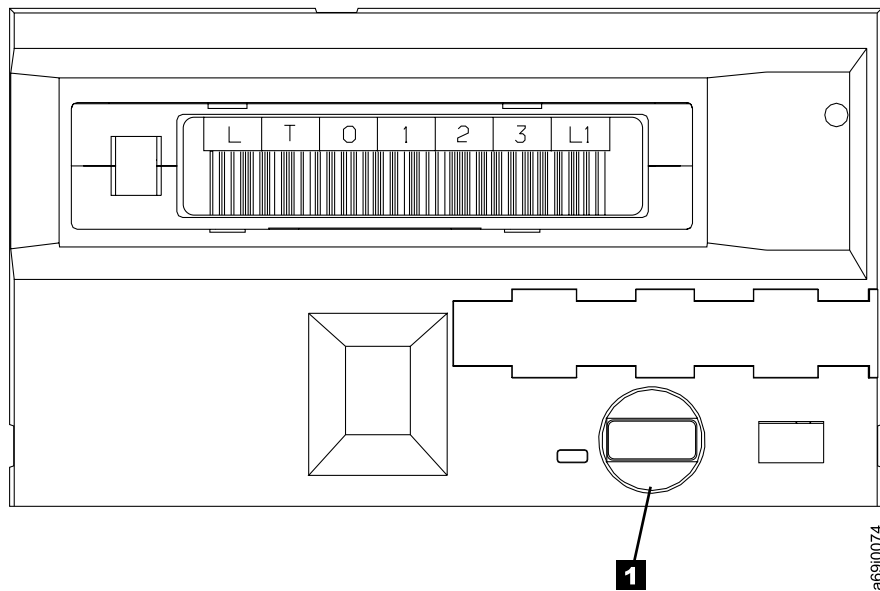

Figure 31. Removing a cartridge from an Ultrium Tape Drive
- For the Ultrium Tape Drive, press the unload button (see **1** in Figure 31). Remove the cartridge.